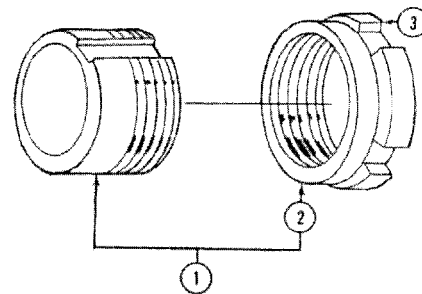

Figure 166
1. Rotate the adjustment collar (1), Figure 166, to extend by hand until the end float clearance is zero and there is no pre-load on the shaft bearings.